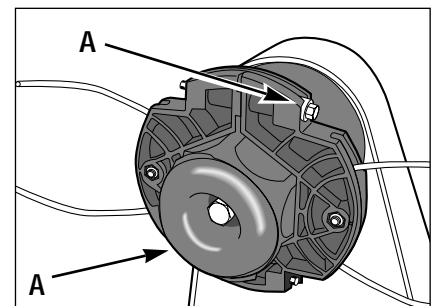

Figure 4-1
2. Use a 1/2" wrench to loosen both bolts (A, Figure 4-1) securing the trimmer head.